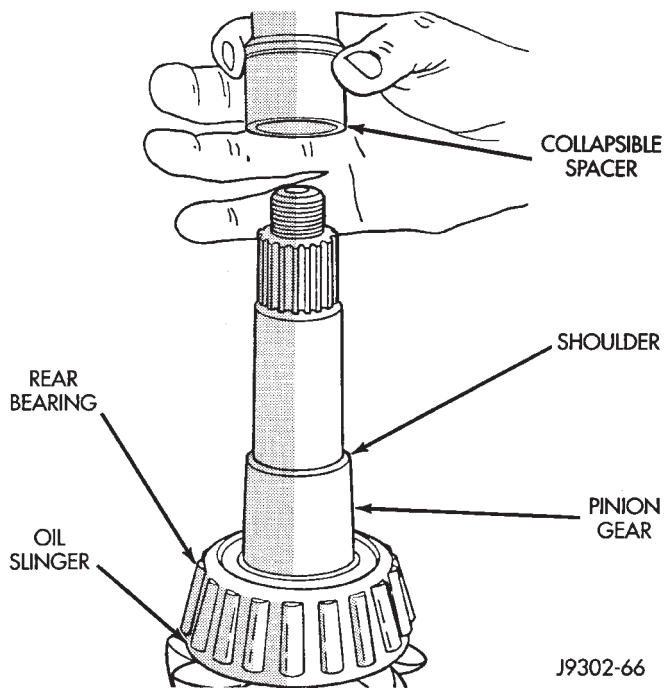

Fig. 50 Collapsible Spacer
(11) Remove the collapsible preload spacer (Fig. 50).